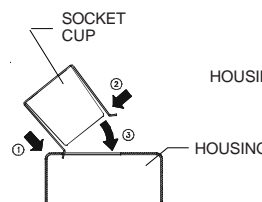

FIG.2
2. Fit the socket cup onto the housing. (Fig.2)